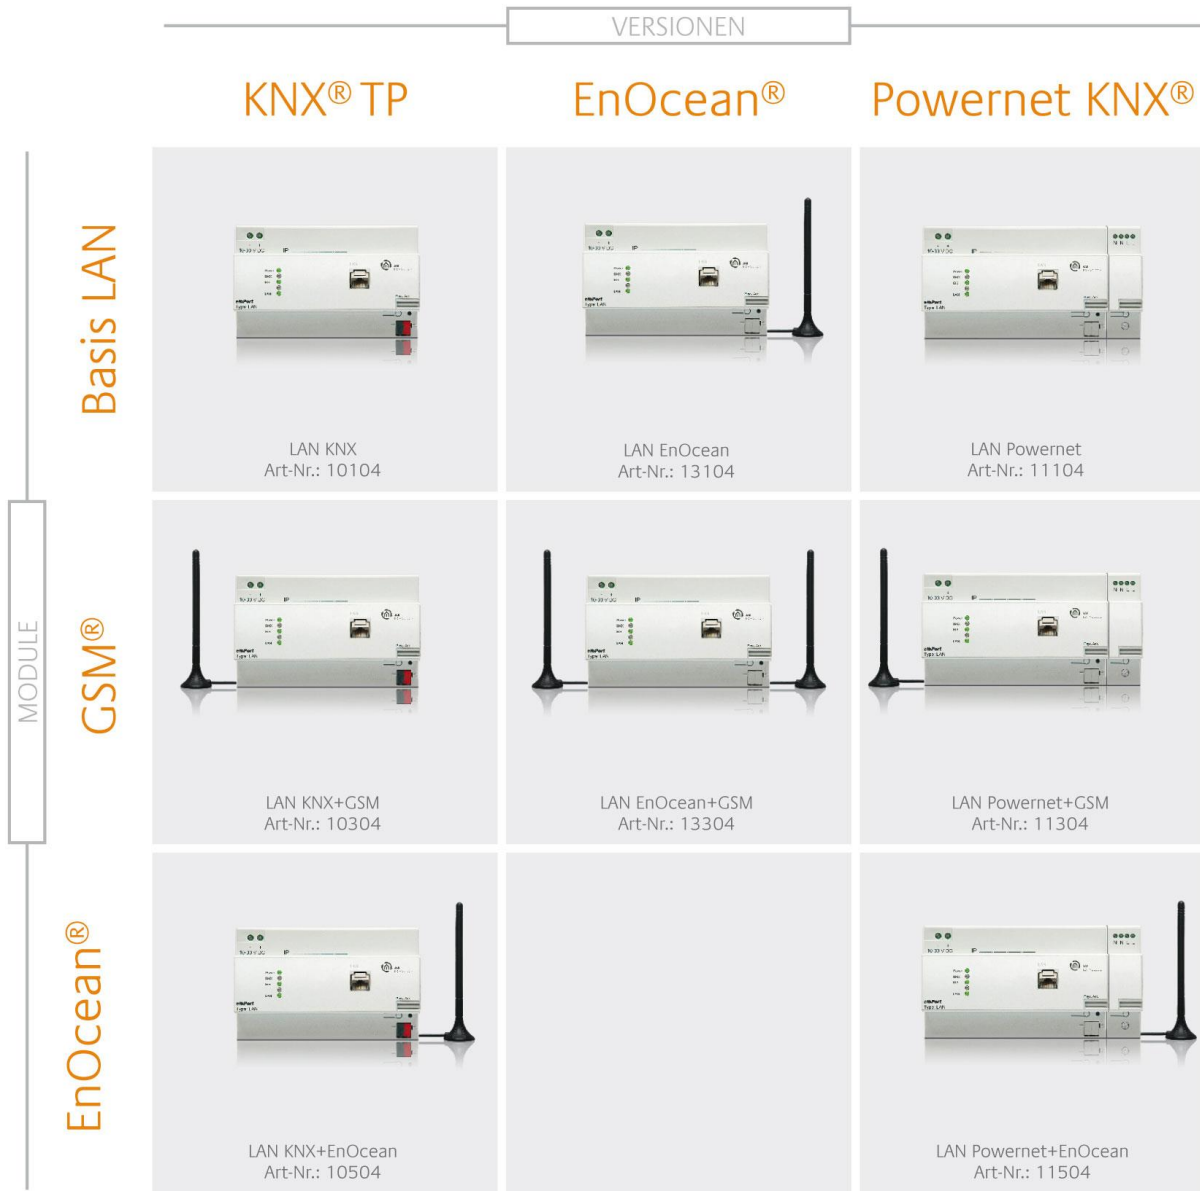

Figure 1: Device Overview
When all connections are made correctly the device may be supplied with power. Please wait until the device has booted completely before checking the correct installation. The boot phase takes about 2 minutes. Have a look at signal LEDs (**figure 1 (3)**).